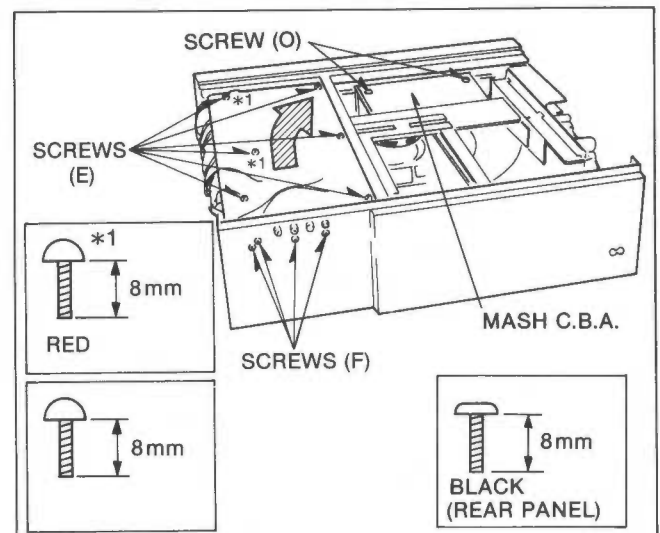

Fig. D6
2. Remove the Main & Mash C.B.A. (refer to Fig. D6).